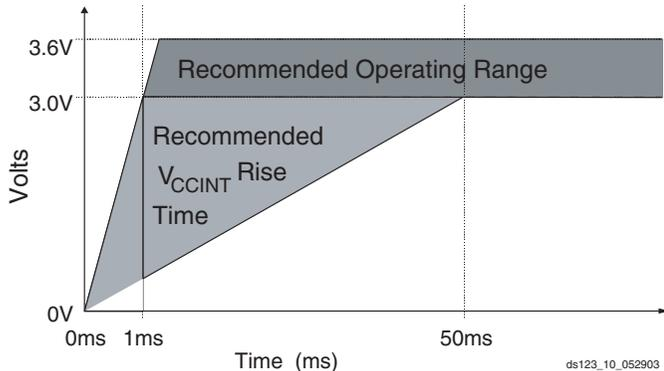

Figure 7: V_{CCINT} Power-Up Requirements
On power up, OE/ $\overline{\text{RESET}}$ is held low until the Platform Flash PROM is active (1 ms). OE/ $\overline{\text{RESET}}$ is connected to an external resistor to pull OE/ $\overline{\text{RESET}}$ HIGH releasing the FPGA $\overline{\text{INIT}}$ and allowing configuration to begin. If the power drops below 2.0V, the PROM resets. OE/ $\overline{\text{RESET}}$ polarity is *not* programmable. See Figure 7 for power-up requirements.
- At power up, the device requires the V_{CCINT} power supply to monotonically rise from 0V to nominal voltage within the specified V_{CCINT} rise time. If the power supply cannot meet this requirement, then the device might not perform power-on-reset properly. See Figure 7.